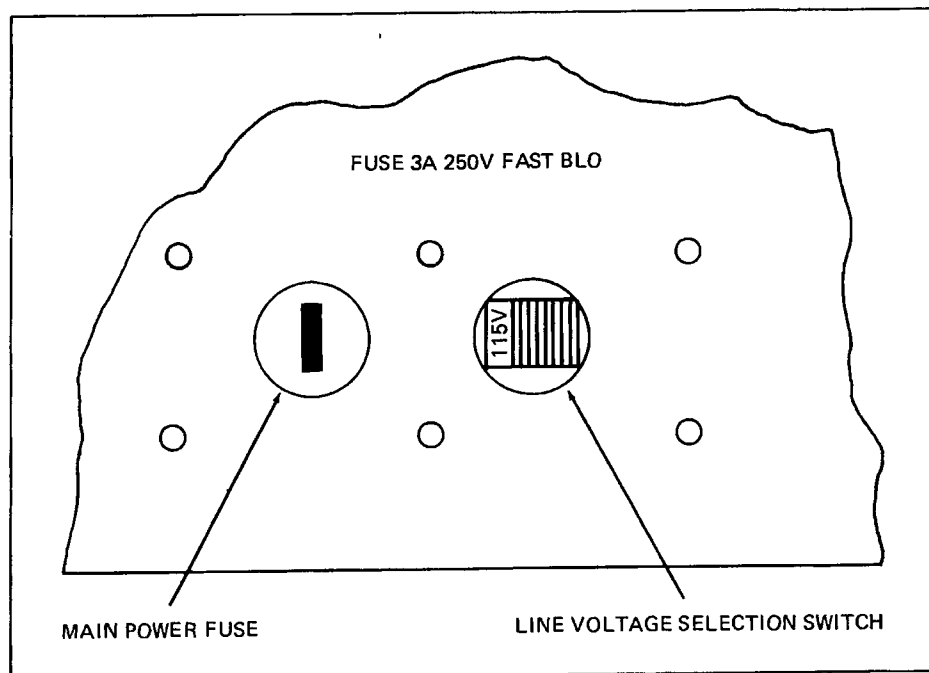

Figure 4-1. Main Power Fuse and Line Voltage Selection Switch
2. Remove the six screws that hold the rfi shield over the main power fuse and the line voltage selection switch. This rfi shield is located just beneath the line power receptacle on the rear panel of the instrument. Figure 4-1 shows the main power fuse and the line voltage selection switch with the rfi shield removed.
3. Set the line voltage selection switch to the range of operation desired. The white window on the switch shows 115 for the 90 to 132V ac rms range and 230 for the 180 to 264V ac rms range. Figure 4-1 shows the 90 to 132V ac rms range selected.